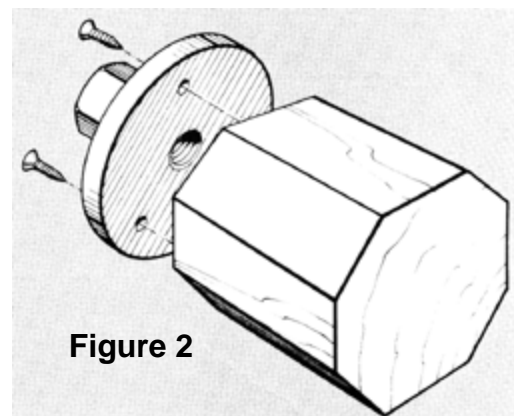

Figure 2
3. Drill pilot holes and use #12 sheet metal screws about 1-1/4" long (**Figure 2**) to attach the block to your faceplate (the smaller the faceplate, the better).